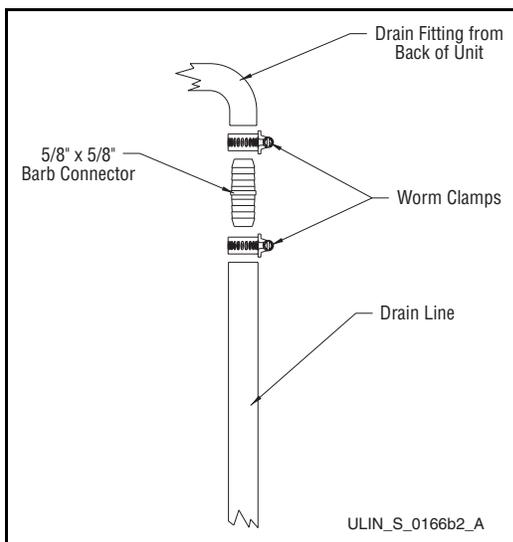

Figure 34
4. Slide a clamp on each side of the barbed fitting as shown (see **Figure 34**).